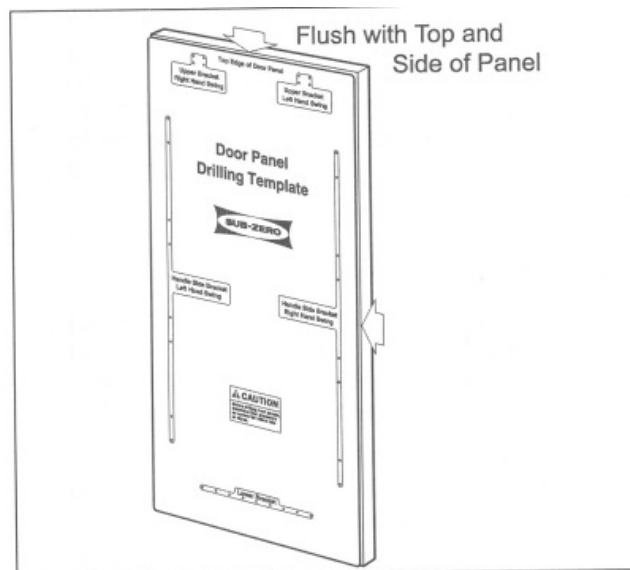

Figure 2-8. Door Panel Drilling Template & Panel
2. Position the plastic drilling template (provided with the unit) on the back of the door panel, flush with the upper edge and the side of the door panel. (See Figure 2-8)
1. **NOTE:** The size of the panel shown in Figure 2-8 is just large enough to cover the door. Actual door panel sizes may vary depending on design/installation variations.